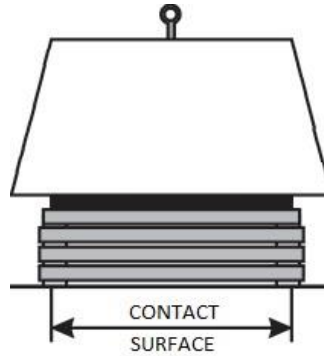

Figure 8 – Initial Surface Contact
- 5.4.1 Position the air bag in a prearranged place or on a constructed foundation (see Figure 8).